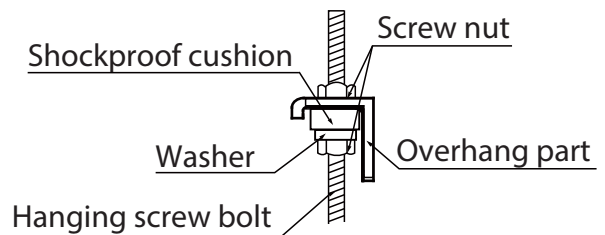

Fig. 18 — Secure the Unit
- Secure the unit in position with lock nuts and washers on both sides of the mounting bracket. Ensure the threaded rod does not extend more than 2 in. below the mounting brackets (see Fig. 18).